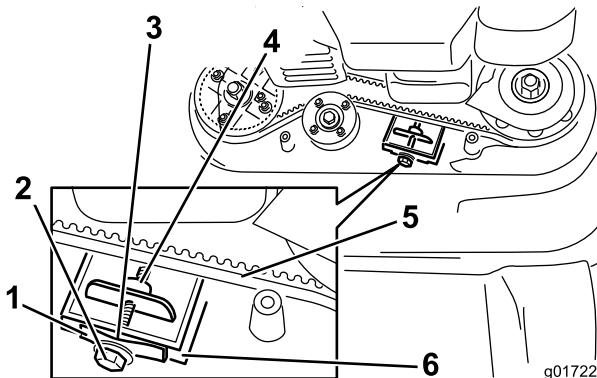

Figure 39
**Note:** If there is a visible gap between the gauge and the spring, tighten the adjusting bolt and the nut until the paper barely slides freely in and out of the gap (Figure 39).